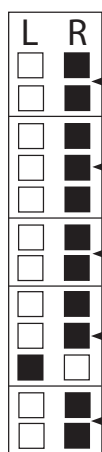

Fig. 1
1. Firmly bend the pre-installed **Grid Clips** (*up and out as shown in Fig. 1*).
See Fig. 1 and 2 for each setting's corresponding switches. Setting options for each category are noted in (parenthesis) below.